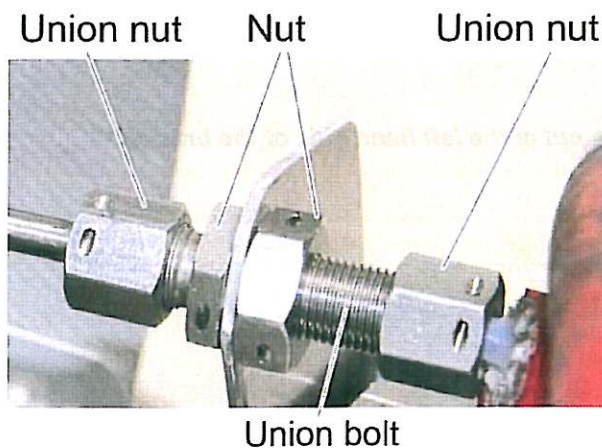

Figure 5
7. **Guide the hollow union bolt of the de-icing nozzle through the hole in the bracket. Attach the right hand nut to the hollow union bolt. After aligning the de-icing nozzle correctly, tighten up the nut. See Figure 5.**
8. **Using the union nut on the right hand side, attach the hose line for the de-icing fluid to the hollow union bolt. Tighten up the union nut. See Figure 5.**
9. **While constantly twisting the securing wire, guide it through the holes of the union nut, both nuts and the other nut at the hollow union bolt of the de-icing nozzle. See Figure 5.**